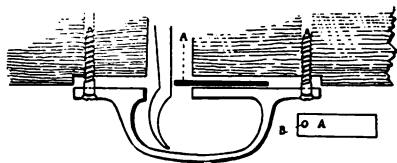

FIG. 5. SIMPLE MECHANICAL DEVICE FOR ELIMINATING THE DRAG TO TRIGGER PULL OF U. S. MAGAZINE RIFLE.
But a much easier way of eliminating the drag is by means of a thin piece of steel of the shape shown in (A, Fig. 5). A piece of hacksaw blade from which the temper has been drawn and the teeth filed off answers perfectly. This is then clamped between the trigger-guard and the wood stock of the gun as shown. A piece of bent wire inserted through the opening in the trigger-guard can be caught in the hole (B) and thus the piece of steel can be moved back and forth, in this way limiting the forward movement of the trigger, and so adjusting the depth to which the sear enters, at once removing the entire drag. When adjusted to the right point, the screws holding the trigger-guard on are tightened very firmly, preventing the steel from changing its position.